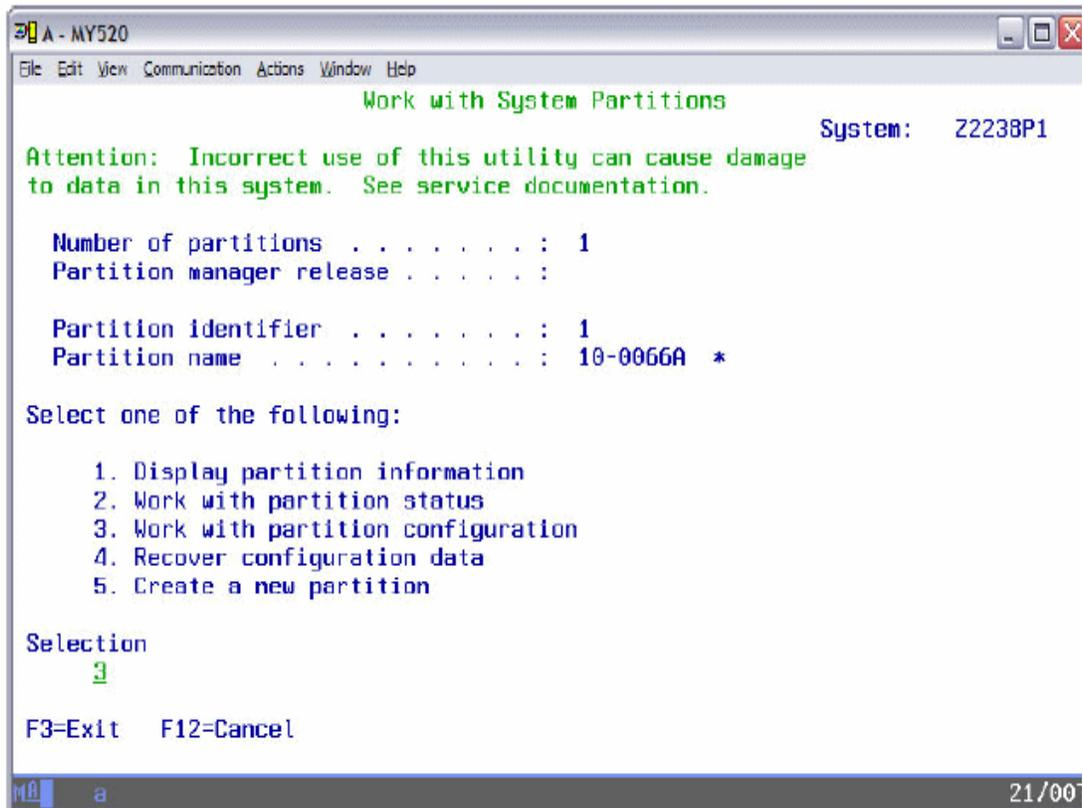

Figure 13-6 Work with System Partitions
4. Press Enter at the message. The Logical Partition management tasks appear, as seen in in Figure 13-6.
5. Select option **3. Work with partition configuration**, as shown in Figure 13-6.